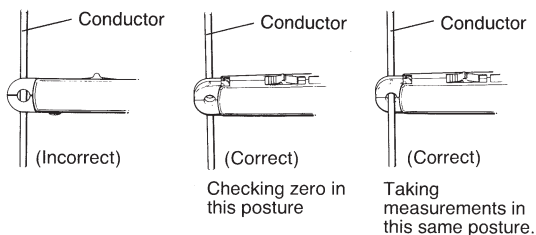

Fig. 4.
- (4) Since the 2A DC tange is designed with very high sensitivity, earth magnetism affects the display reading by several counts (for DC currents only). When checking to see if the display reads zero near the conductor under test, hold the instrument in the same posture as where it is used to clamp on the conductor. Refer to Fig. 4.